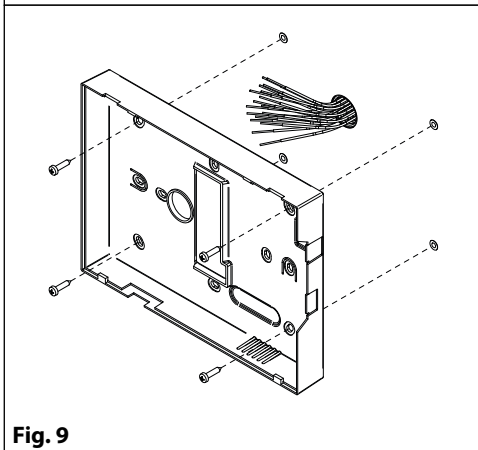

Fig. 9
3. As shown in figure **Fig. 9**, fix the back cover of the videophone to the wall keeping the same orientation shown in the figure and taking care to feed the connection cables through the specific circular opening;